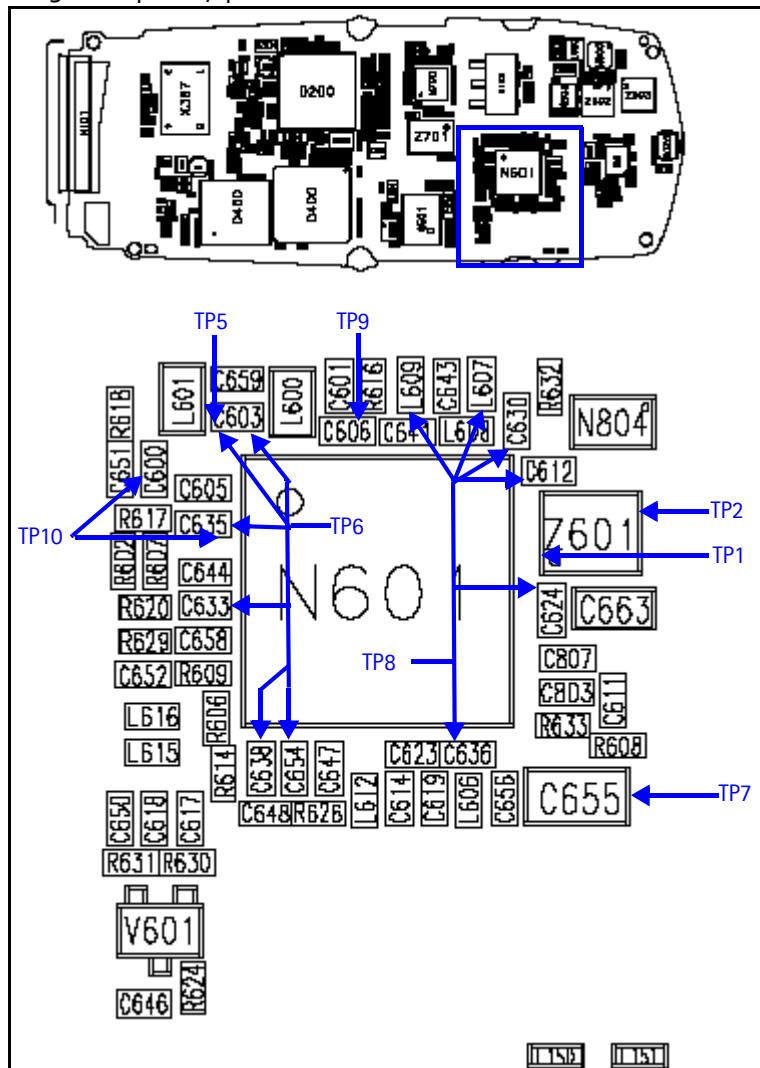
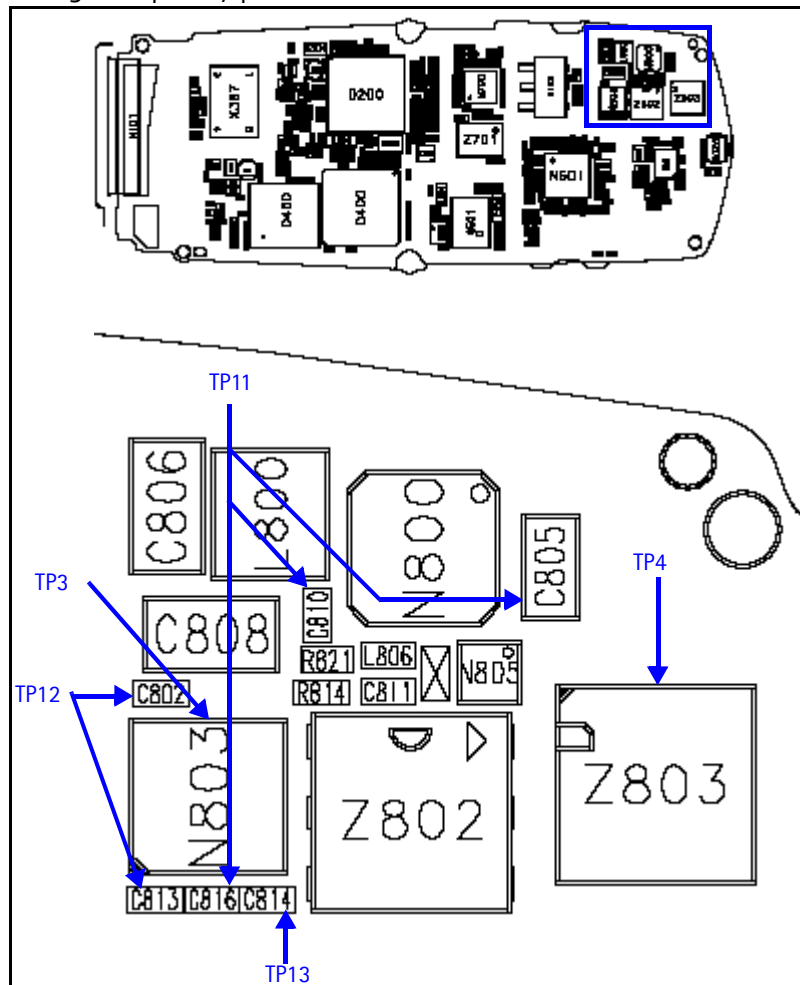

Figure 8: PWB, bottom side (Top). A zoomed view of the Jedi TXIC section with part numbers (Bottom).
Figure 9: PWB, bottom side (top). A zoomed view of the PA section with part numbers (bottom).
* The R, L, T, and B values at the end of the part names indicate the Right, Left, Top, and Bottom side of the part respectively in Figure 8 and Figure 9.
Figure 8 shows each test point for the Jedi TXIC section from Table 1, "Cell Transmitter Test Points," on page 9. Always attach a 20 dB pad (11881-60001) when probing with an HP85024A high-frequency probe.
Figure 9 shows each testing point for the PA section from Table 1, "Cell Transmitter Test Points," on page 9. *Always* attach a 20 dB pad (11881-60001) when probing with an HP85024A high frequency probe.